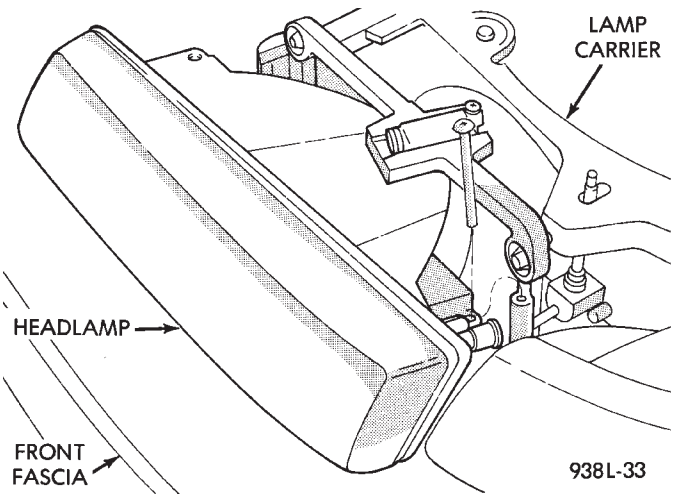

Fig. 2 Headlamp
- Remove screws holding headlamp to lamp module (Fig. 2).